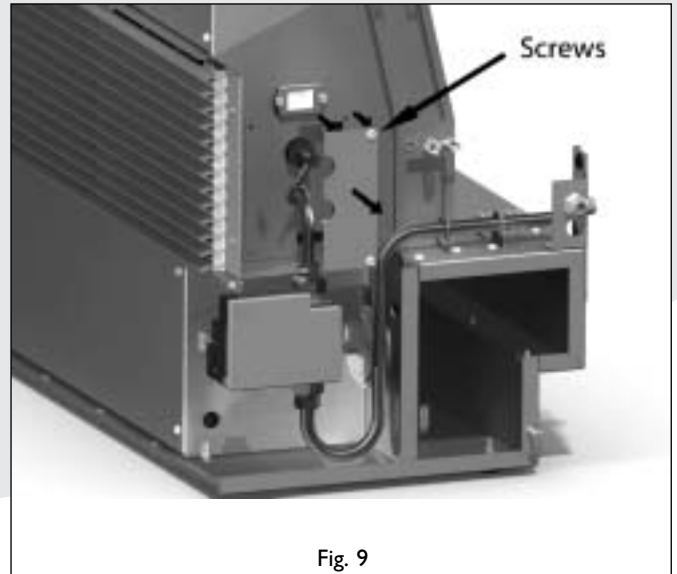

Fig. 9
- Unscrew the 4 screws of the cover plates around the gas tube and ignition pen (see fig. 9).